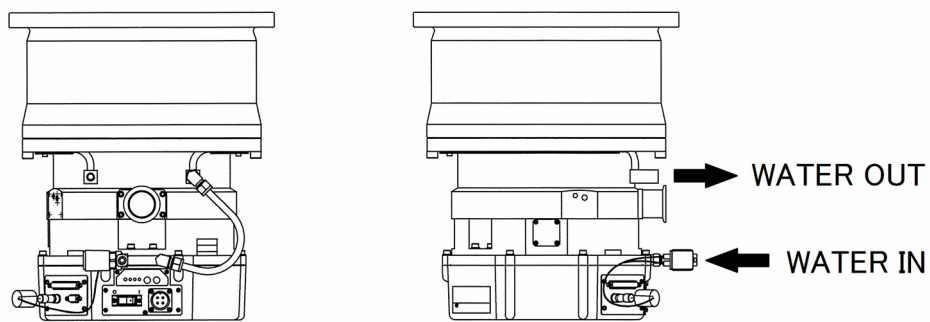

Fig.5-8 Connection of Cooling Water Line
- (1) Supply the coolant water to coolant water IN connection of the solenoid valve for the coolant water as shown in Fig. 5-8, and drain the cooling water pipe from coolant water OUT connection. The valve to isolate (Lockout / Tagout) cooling water should be installed at user equipment.